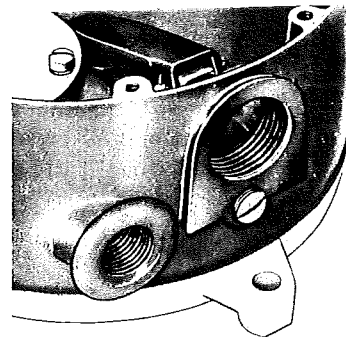

FIGURE 9
- c. Lay converter body face down, place new gasket in position, and insert aligning pins to hold it in place. Locate back cover on pins with **MOUNTING EAR HAVING FLAT SIDE DIRECTLY OVER VAPOR OUTLET.** (Figure 9) **THE BACK COVER MUST BE INSTALLED IN THIS POSITION.**